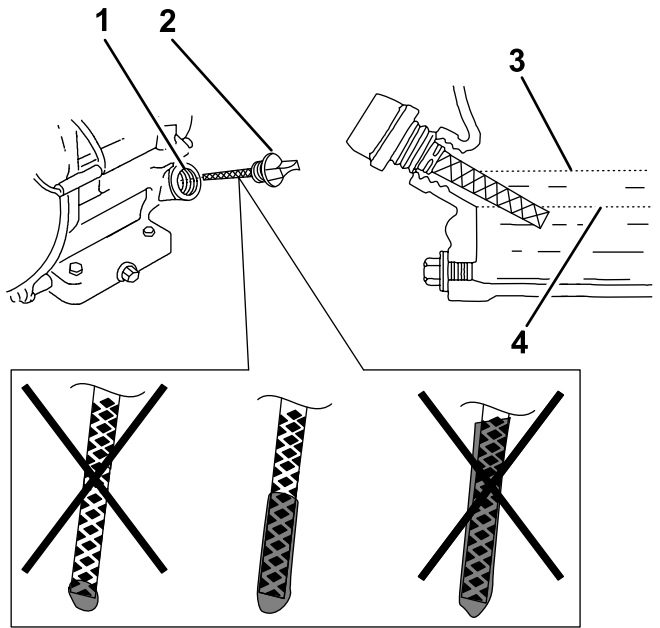

Figure 36
4. Remove the dipstick and wipe the end clean (Figure 36).
5. Slide the dipstick fully into the fill port without threading it into the port (Figure 36).
6. Remove the dipstick and look at the end. If the engine oil level is low, slowly pour only enough oil into the fill port to raise the level to the Full mark on the dipstick (Figure 36).
7. Replace and secure the dipstick (Figure 36).